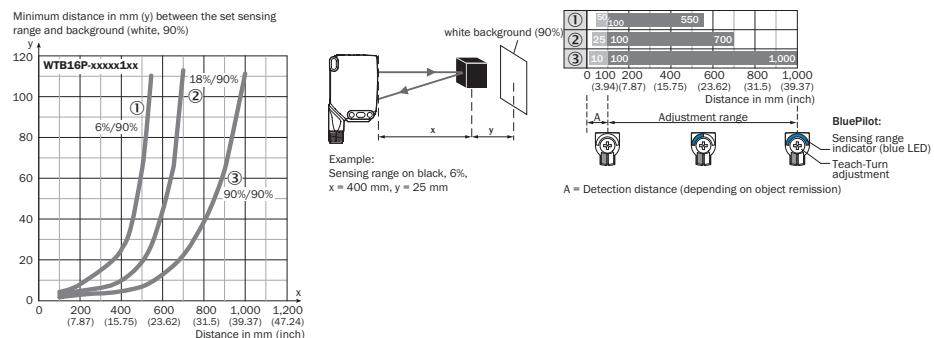

Figure 5: Characteristic line 1, WTB16P Bluetooth-xxxx1xx, red light
Check the application conditions: Adjust the sensing range and distance to the object or background and the remission capability of the object according to the corresponding diagram [see figure 5 and 7] (x = sensing range, y = minimum distance between set sensing range and background (white, 90%)) Remission: 6% = black ①, 18% = gray ②, 90% = white ③ (referring to standard white as per DIN 5033). We recommend making the adjustments using an object with a low remission.
The minimum distance (= y) for background suppression can be determined from diagram [figure 5 ①] as follows: